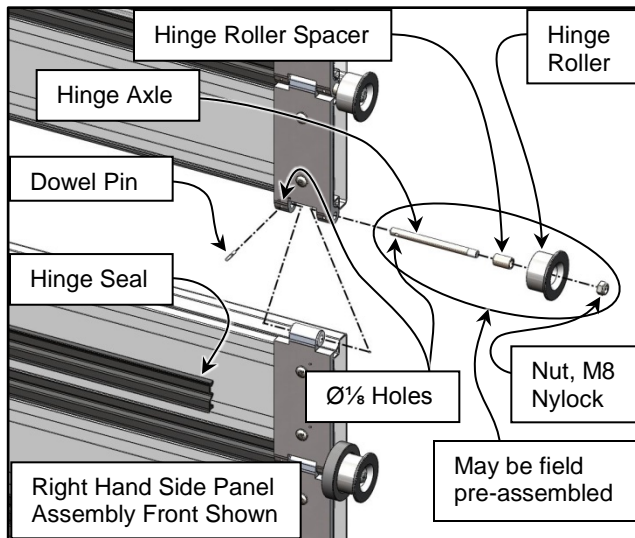
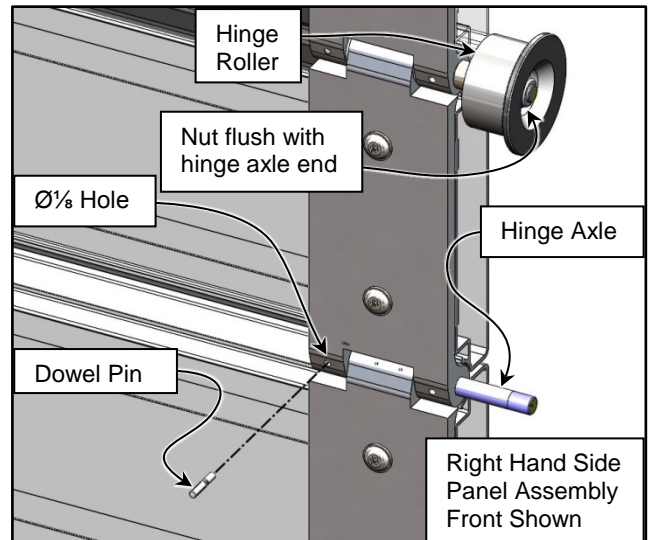

Figure 33
Figure 34
6. Locate and identify the next panel section assembly for the door panel assembly. Orient and mate the next panel section with the last installed panel section so the hinge assembly bracket holes are aligned as shown. (See Figure 33)
7. Once the hinges of the panel sections are aligned insert the hinge axles as shown. The threaded end must be on the outside of the panel and the through hole on the panel inside. (See Figure 33)
8. Align the small  $\text{Ø}\frac{1}{8}$  hole in the hinge axles with the small holes through the inside ear of the hinge as shown. (See Figure 33 and Figure 34)
9. Insert the dowel pin into the hole of the panel hinge, all the way through the hinge axle and hinge until the pin is flush to the near surface. (See Figure 34)
10. Install the Hinge Roller Spacer onto the Hinge Axle. (See Figure 33)
11. Install the Hinge Roller onto the Hinge Axle. (See Figure 33 and Figure 34)
12. Install the Nut onto the Hinge Axle. Screw the nut on until the hinge axle end is flush with the end of the nut. It should be tight enough to hold the axle in place. (See Figure 33 and Figure 34)